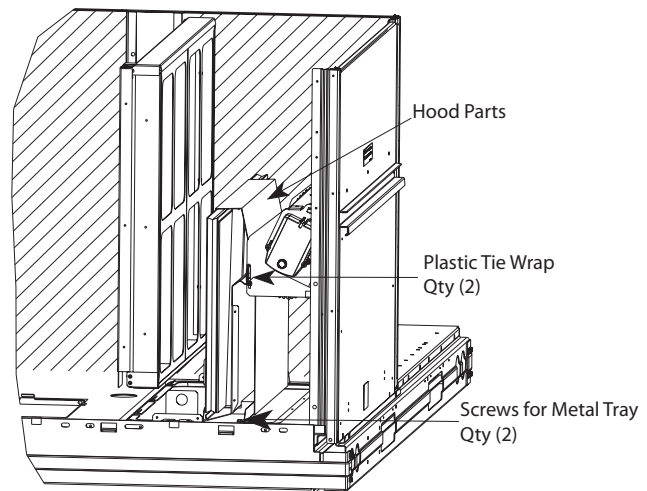

Fig. 10 - Economizer and Two-Position Damper Hood Parts Location
3. Locate the (2) screws holding the metal tray to the basepan and remove. Locate and cut the (2) plastic tie-wraps securing the assembly to the damper. (See Fig. 10) Be careful to not damage any wiring or cut tie-wraps securing any wiring.